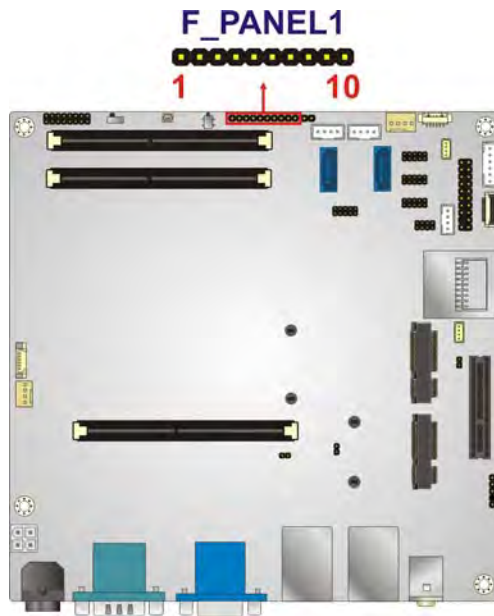

Figure 3-11: Front Panel Connector Location
- CN Location: See **Figure 3-11**